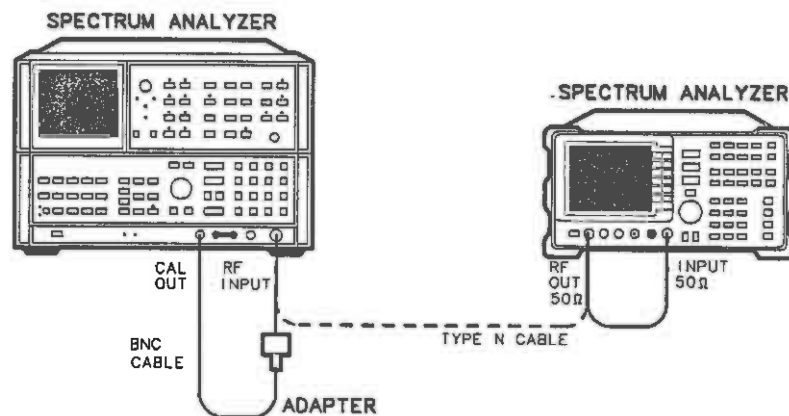

Figure 3-31. Non-Harmonic Spurious Responses Test Setup
1. Connect the Type N cable between the spectrum analyzer's RF OUT 50 $\Omega$  and INPUT 50 $\Omega$  connectors. See Figure 3-31.
7. Connect the Type N cable from the tracking generator RF OUT 50 $\Omega$  to the HP 8566A/B RF INPUT. See Figure 3-31.